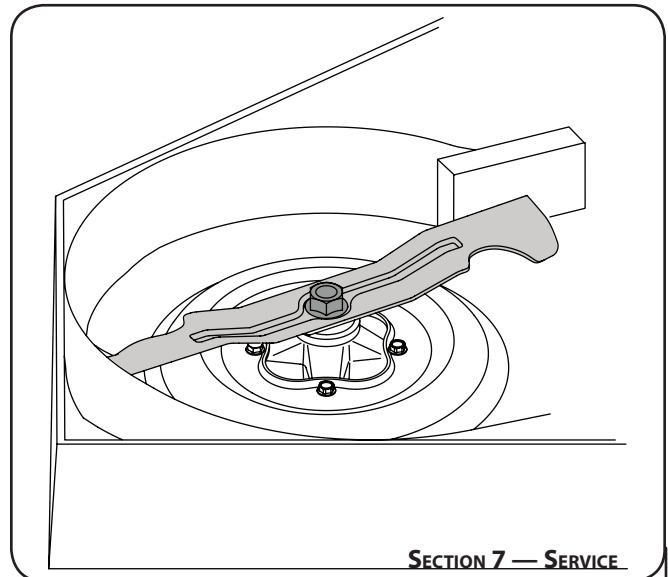

Figure 1-6
- Wrap a rag around one end of the blade and grasp it to prevent it from turning, or secure the blade by placing a block of wood between the blade and the deck housing. See Figure 1-6.